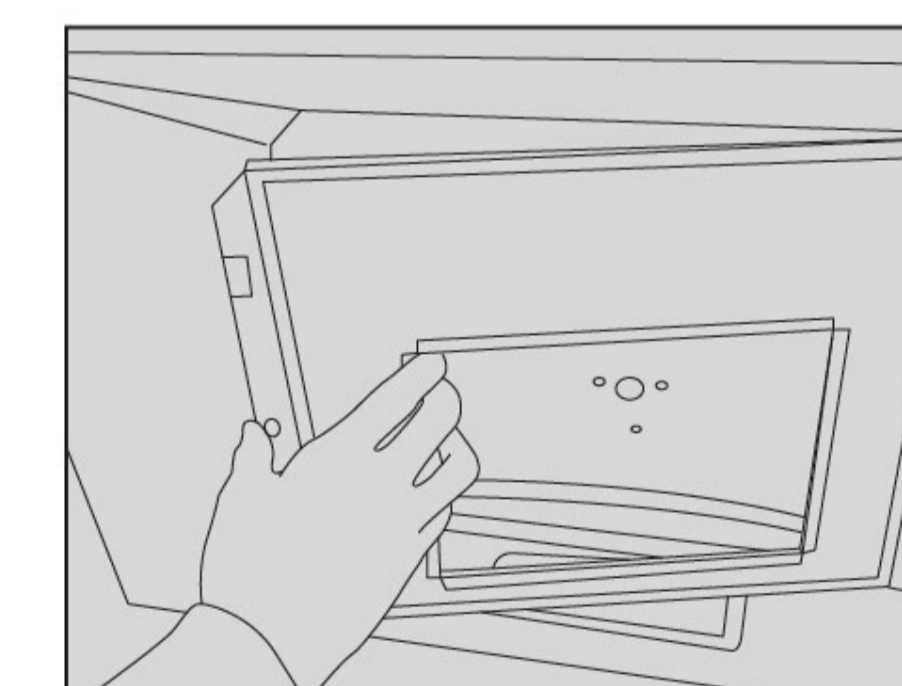

Fig.13
- c. Install the filter component according to Figure 13;